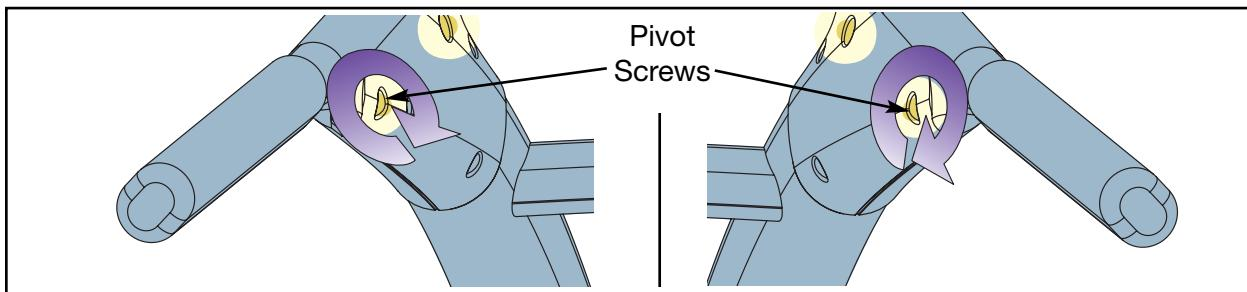

Figure 8
B. Using the hex key provided, tighten the two pivot screws on the handrail. See Figure 8.